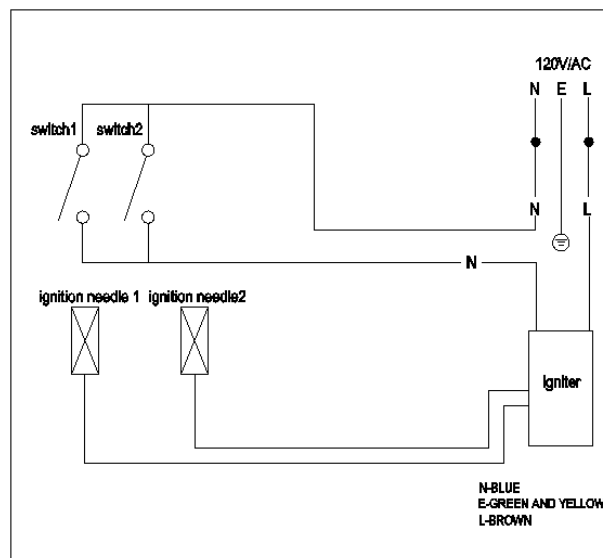

Figure 18(for the appliance with two burners)
- 6) Test the outlet pressure, the pressure is required to be 10 ± 1 in wc. If it cannot meet the scope of the requirements, need to unscrew the pressure regulator nut as Figure 18, rotate slightly to adjust the white plastic parts inside the pressure regulator.
- 8) Similarly, when use in NG status, turn the marked NG arrow upwards and tighten it to the screw cap (see Figure 18). Repeat the above operation. The outlet pressure requires to be 4 ± 1 in wc.